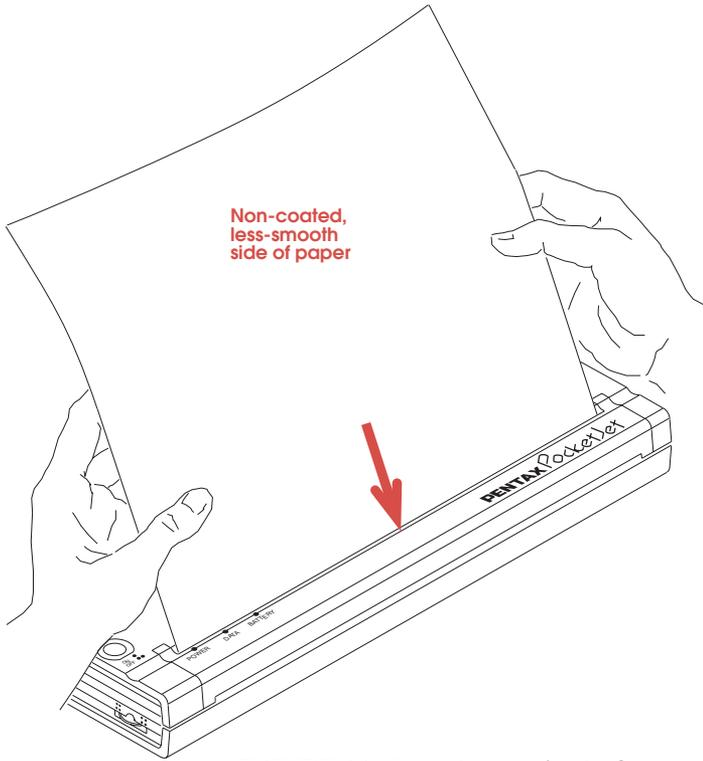

FIGURE 14. Inserting a sheet of paper.
- 4** Insert a sheet of thermal paper into the paper input slot. Place the print side of the paper away from you, so that it faces the rear of the printer. See *Figure 14*.